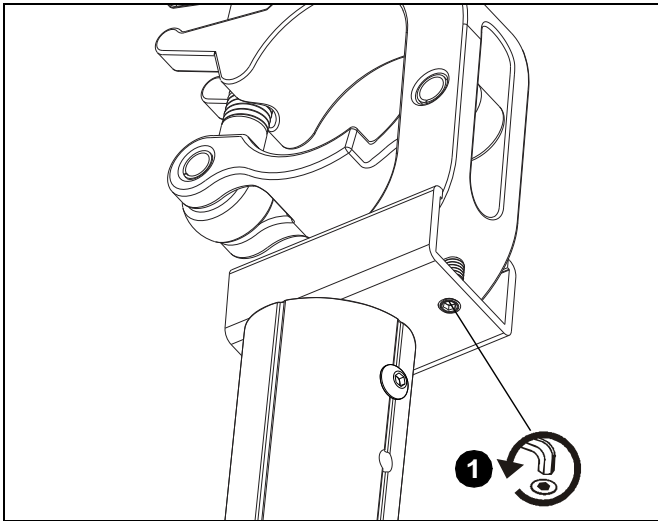

Figure 6
1. Use M3 hex key (E) to loosen set screw until screw is disengaged with back of clamp. (See Figure 6)